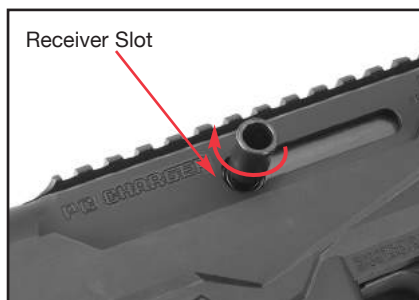

Figure 19.
3. With the bolt closed, align the conical base of the charging handle with the corresponding countersink on the bolt by passing through the charging handle slot of the receiver (see Figure 19). Tighten the cap screw to 65 inch-pounds to ensure the handle is secure. The charging handle torque should be verified every 1,000 rounds or whenever the charging handle is removed and reinstalled.